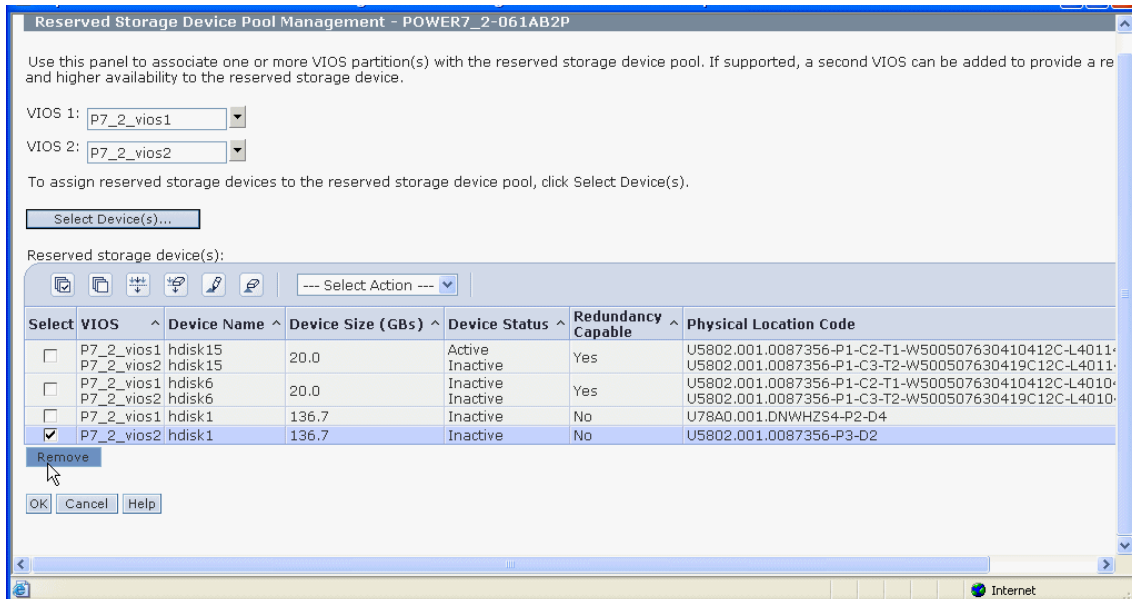

Figure 13-9 Reserved storage device pool management device
4. Select the device that you want to remove, then click **Remove** as shown in Figure 13-9.